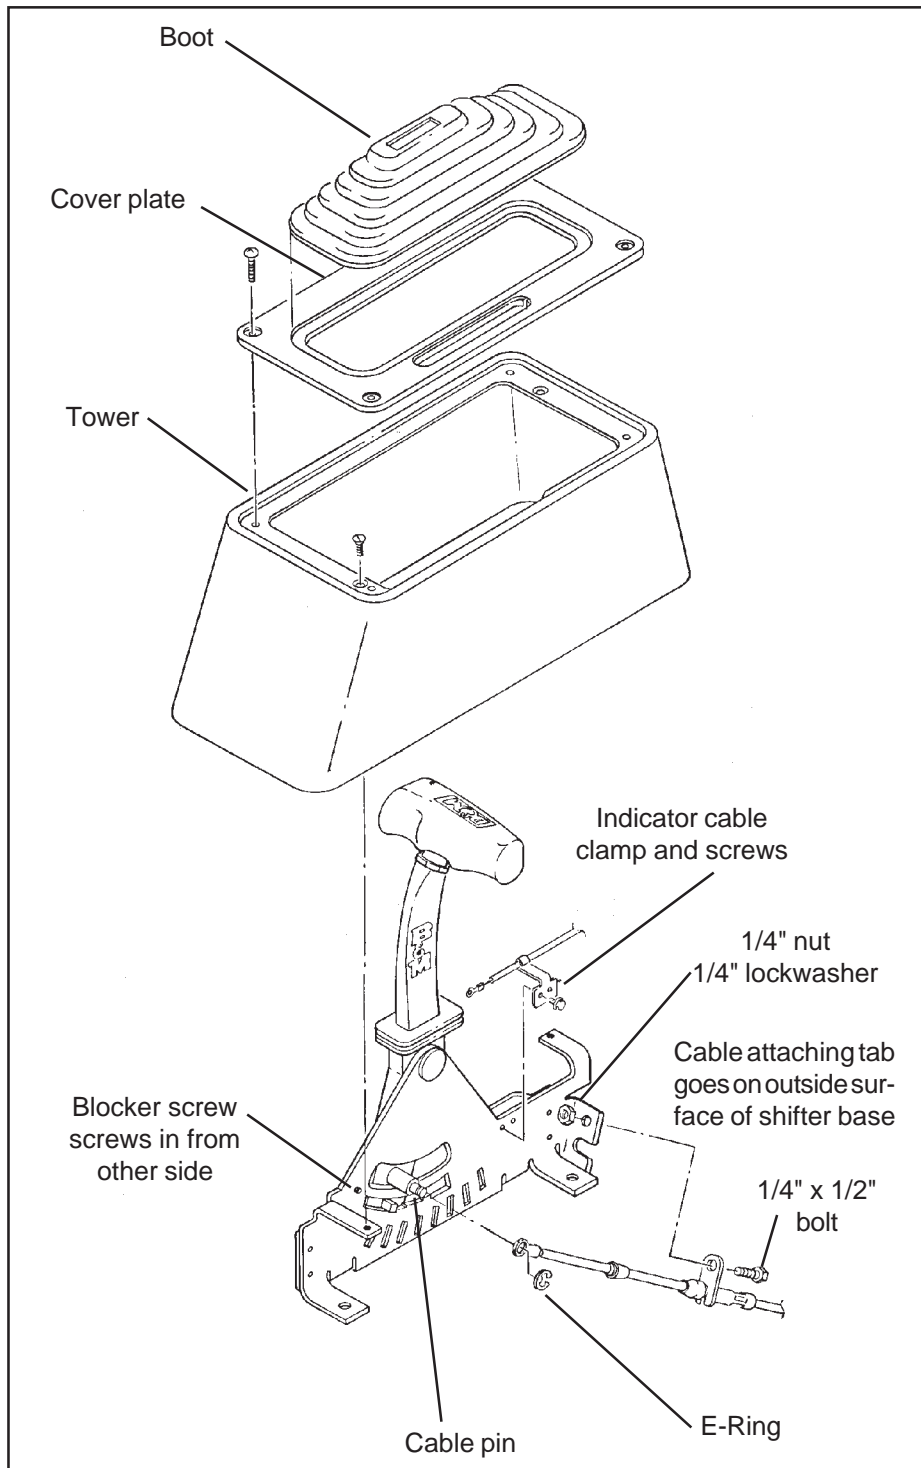

Figure 1
STEP 2. If the shifter is being used on a GM four speed automatic transmission the blocker screw shown in **Figure 1** should be removed. For all three speed automatic transmissions as well as the Ford AOD four speed automatic transmission the blocker screw should remain in place.
STEP 7. Install the cable on the shifter as shown in Figure 1. The cable attachment tab should be bolted to the outside surface of the shifter base using a 1/4" x 1/2" hex bolt, lock washer and nut.
STEP 8. Just before the final installation of the shifter in the vehicle, attach the indicator cable to the shifter as shown in Figures 1 and 2. The indicator cable is secured to the cable pin by a supplied small E-Ring.